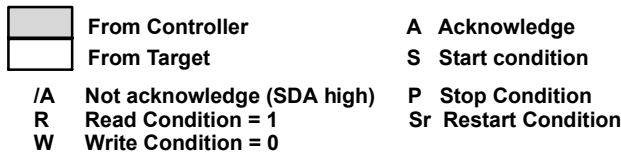

图 6-8. I²C Read Cycle
The transmitting device must not drive the SDA signal during the acknowledge cycle so that the receiving device may drive the SDA signal low. The controller indicates a not acknowledge condition (\bar{A}) by keeping the SDA signal high just before it asserts the stop condition (P). This sequence terminates a read cycle as shown in 图 6-8.